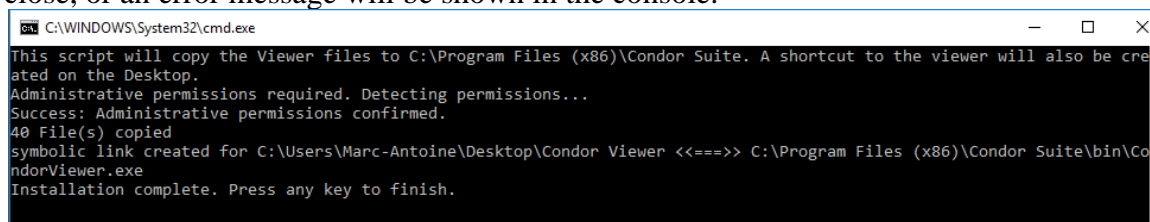

Figure 7: Successful install window
- b. Inside that folder, run the “setup.bat” file as administrator. If no error occurred, a window like the one shown in Figure 7 will appear. If an error occurs, the window will instantly close, or an error message will be shown in the console.